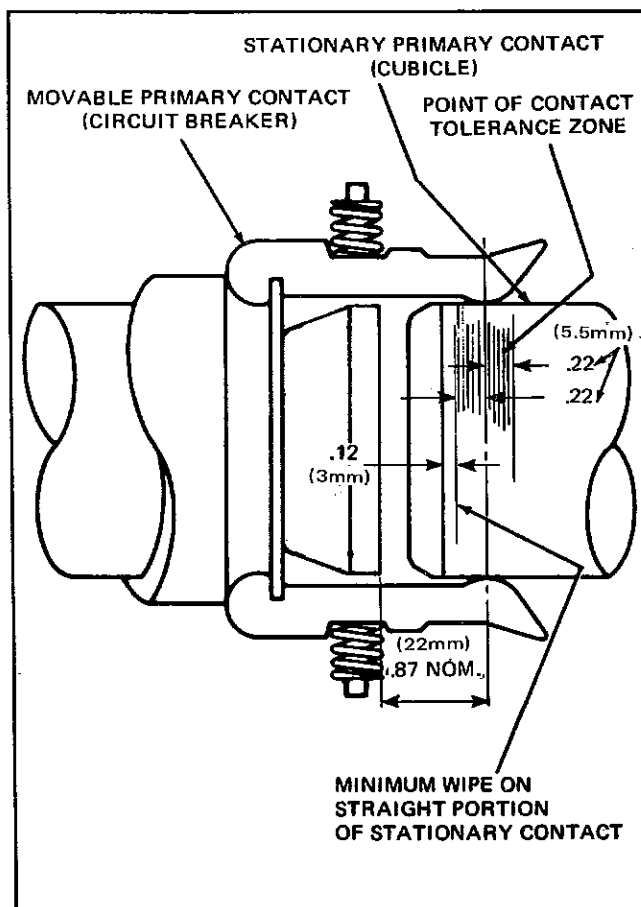

Figure 75. Primary Contact Engagement.
7. Remove breaker from cubicle and check the length of engagement of the primary contact fingers over the straight portion of the contact surface on the stationary contact. The contact point of the fingers must have a minimum wipe of .12 inch (3 mm) over the straight portion of the stationary contacts (Figure 75). This can be observed by opening shutters and with a flashlight note the polish marks on the stationary contacts. Remove excess grease from contact fingers.